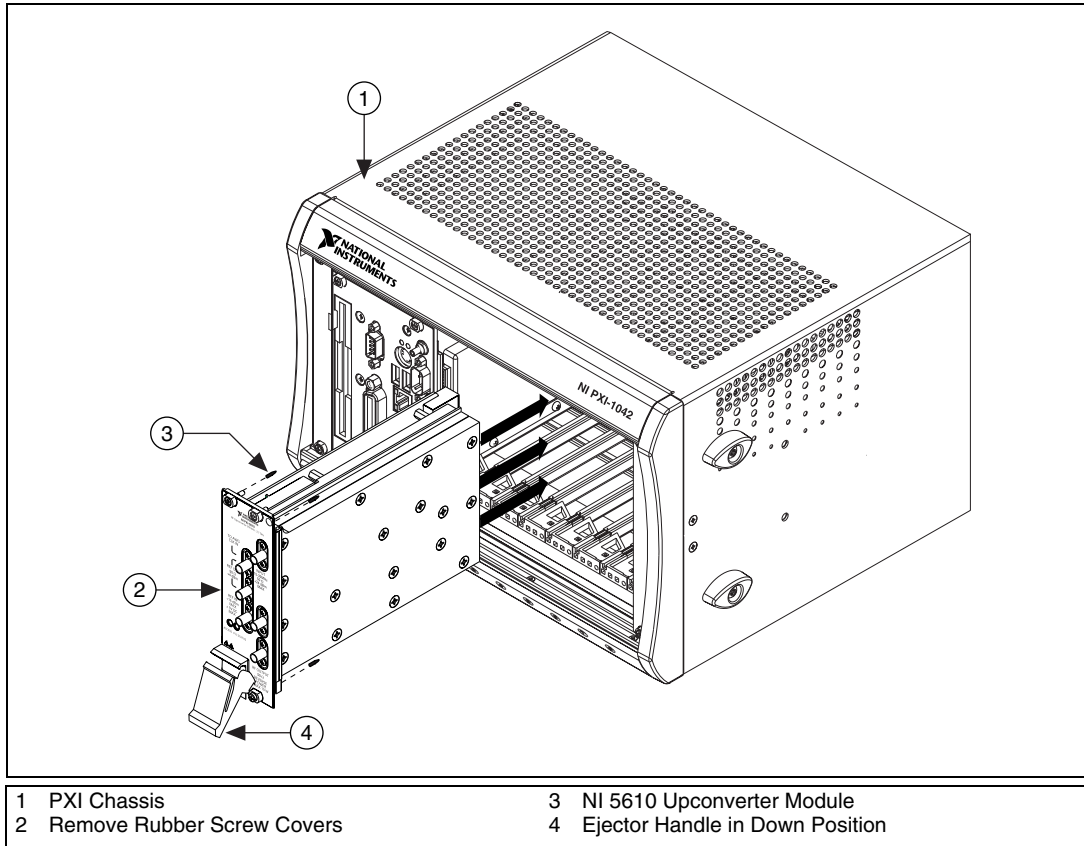

Figure 1-4. Install the NI 5610 Upconverter Module
2. Install the NI 5610 upconverter module as shown in Figure 1-4. This module requires two vacant PXI slots.